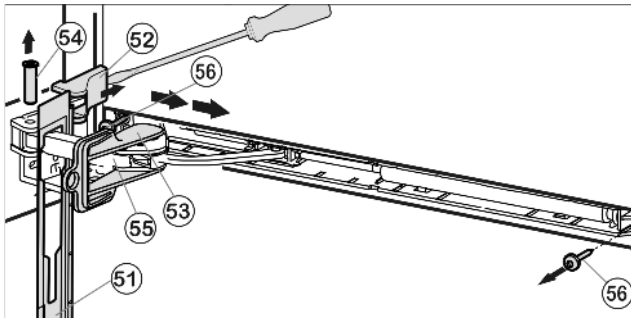

Fig. 16
► Push panel forwards over the damper bracket *Fig. 16 (55)* in the direction of the appliance.
► Engage locking device *Fig. 16 (53)* into place inside oblong hole.
► Lift off cover *Fig. 16 (52)* from the outside using a screwdriver and remove by pulling outwards.
► Push bolt *Fig. 16 (54)* out from below.
► Press damper bracket *Fig. 16 (55)* in the direction of the door.
► Remove panel *Fig. 16 (51)*.
► Unscrew entire soft stop unit (2 x Torx 15) *Fig. 16 (56)*.